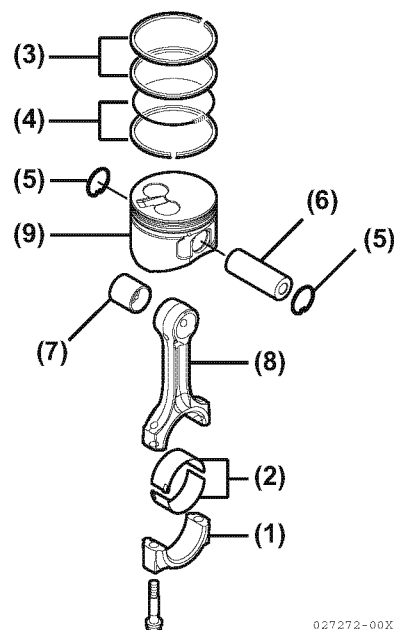

Figure 6-85
5. Lubricate and install the wrist pin (**Figure 6-85, (6)**) through the piston and connecting rod.
6. Reinstall the second circlip (**Figure 6-85, (5)**) and ensure it is securely seated in the groove.